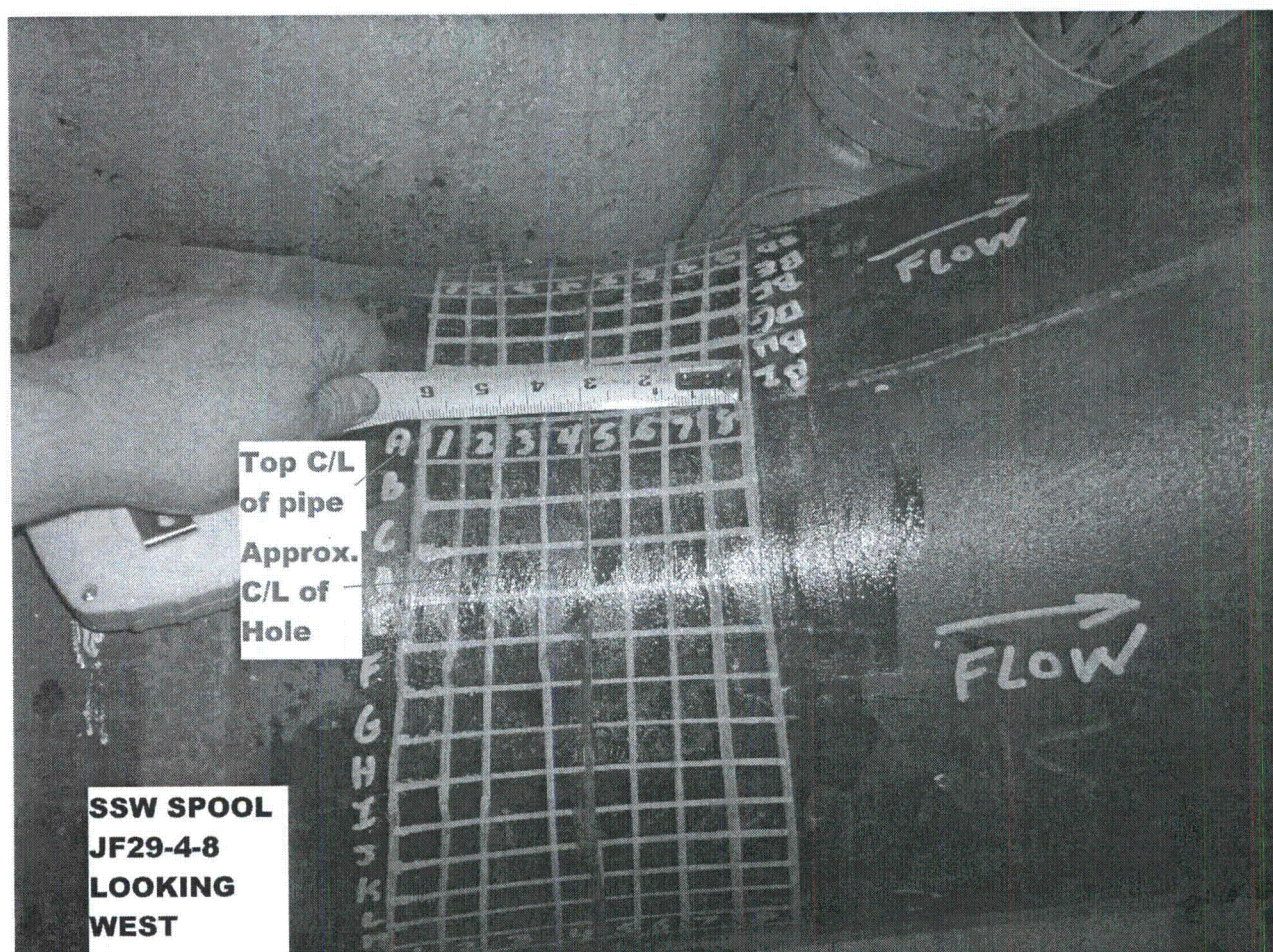
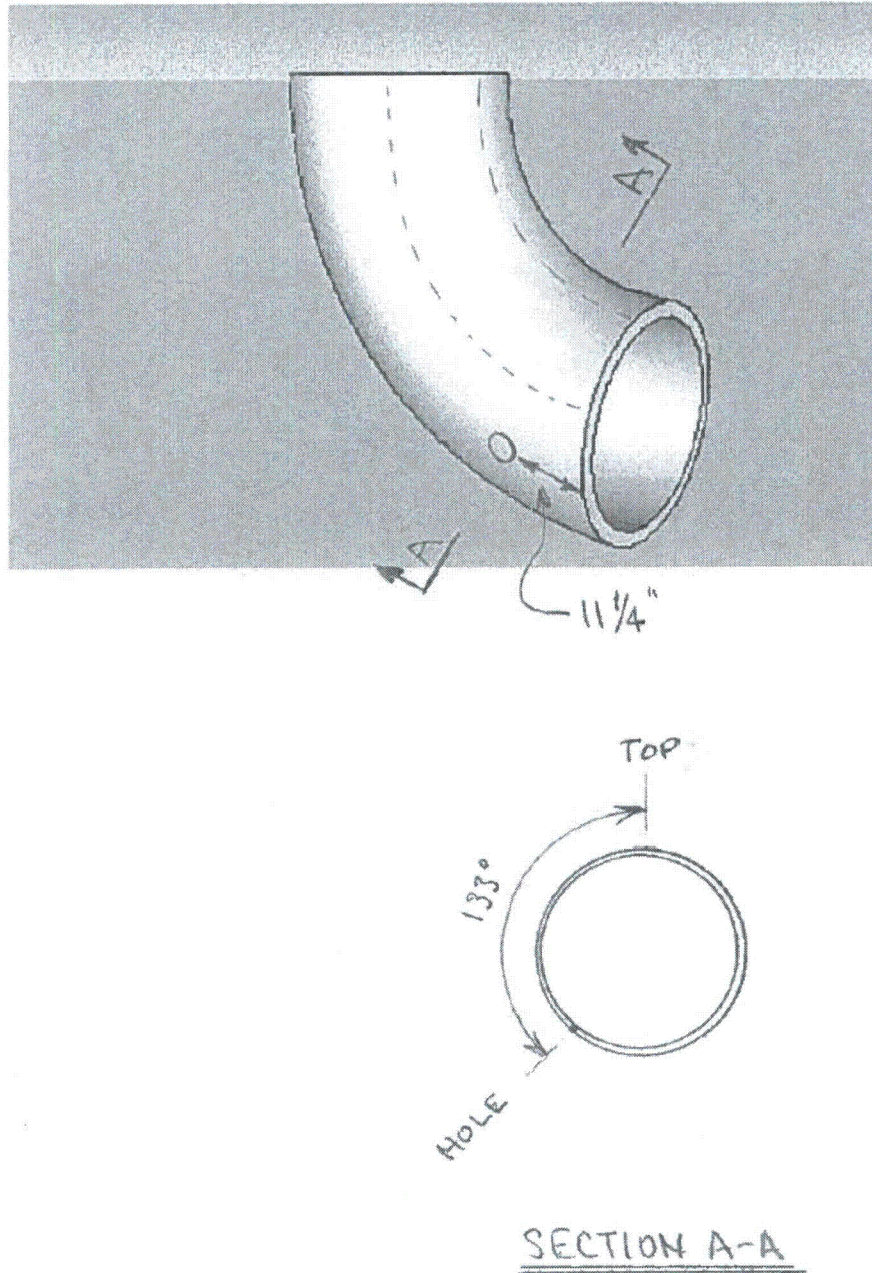

Figure 1: Photo of UT Grid
Figure 2: Leak Location
The evaluated local thinning is from Reference [4] and is shown in Appendix B. The grid spacing is 0.75 inch [4]. The thinning data point locations for the Reference [4] values are shown in Figure 1.
The three-dimensional finite element model is constructed using ANSYS 8-node SOLID45 structural solid elements. The region of ultrasonic (UT) measurement consists of eight (8) axial grid blocks by sixty-one (61) circumferential grid blocks [4]. Reference [4b] indicates that the axial grid is centered across the axial position of the leak (see Figure 1). The axial position of the hole, relative to the elbow is provided in Reference [6] and shown in Figure 2. The remaining elbow region, which was not UT examined is assumed to have a wall thickness equal to the nominal wall thickness of the pipe, 0.312 inch.
The leak location that is shown in Figure 2 is modeled as a square hole that is approximately 0.674 inches long axially by 0.464 inches long circumferentially. The elements originally modeled in the hole region are deactivated via the ANSYS EKILL command. The deactivated elements have near-zero stiffness contribution to the structure. The hole center axially between the Row 4, Column AO and Row 5 Column AO UT data points [4b] (see Appendix B).